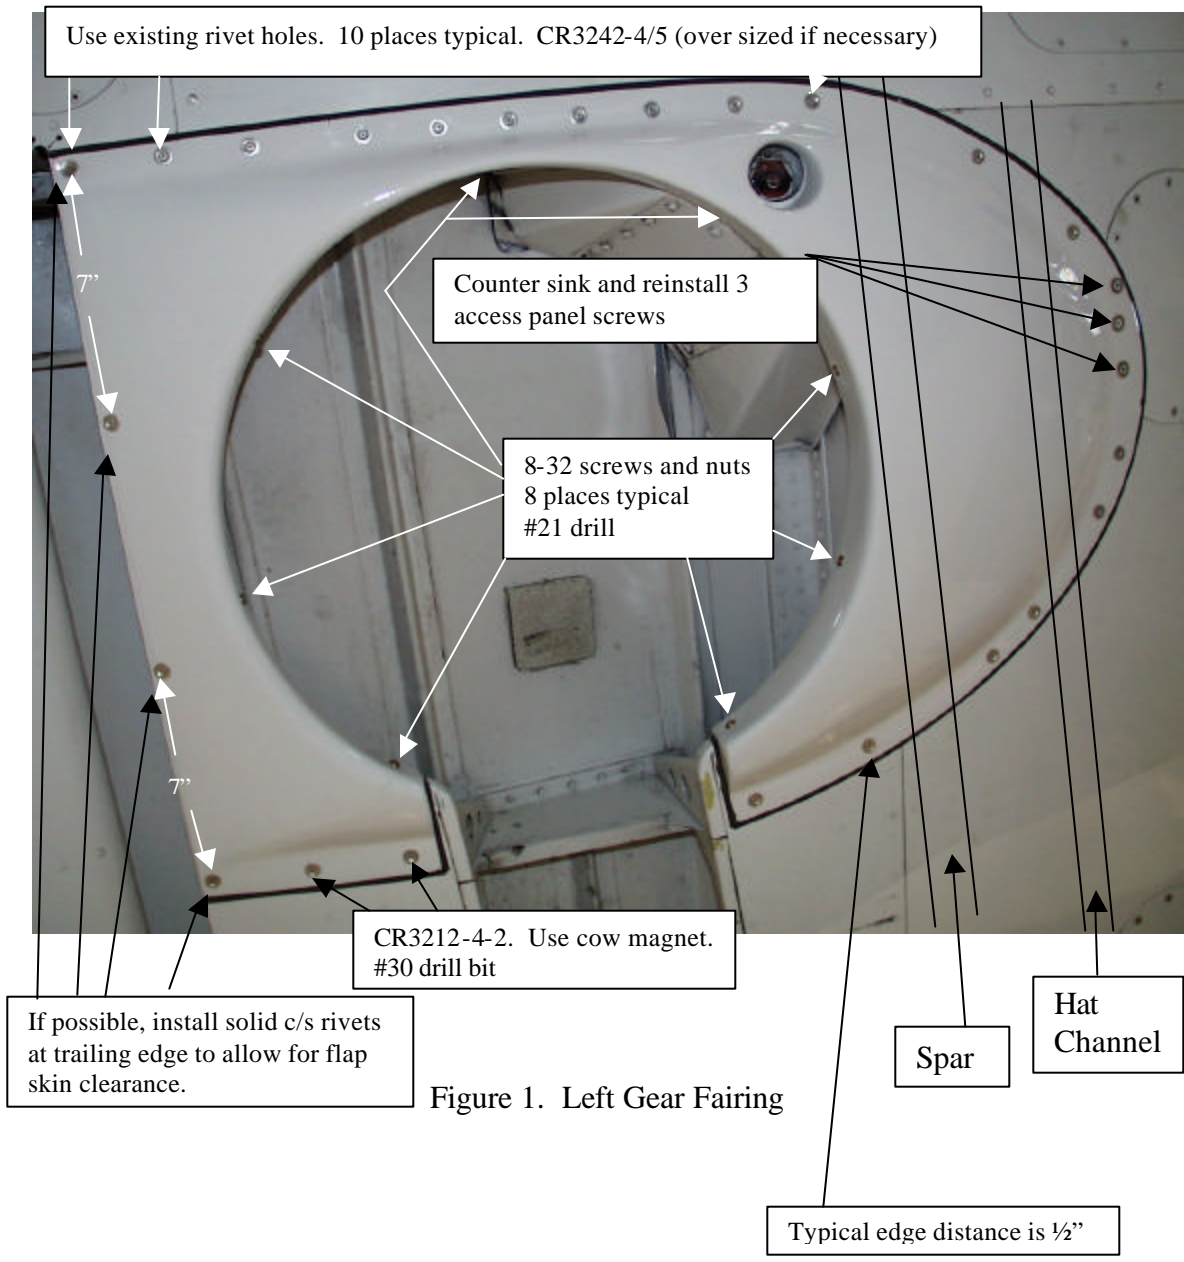

Figure 1. Left Gear Fairing
1. Remove existing rivets shown in Figure 1 at the wing root fairing.
6. Drill holes and install screws and nuts in the inner ring shown in Figure 1.
7. Locate existing holes in outer fairing using a hole finder. Use a cow magnet (or similar magnet) for locating the new holes as shown in figure 1 and 1A.